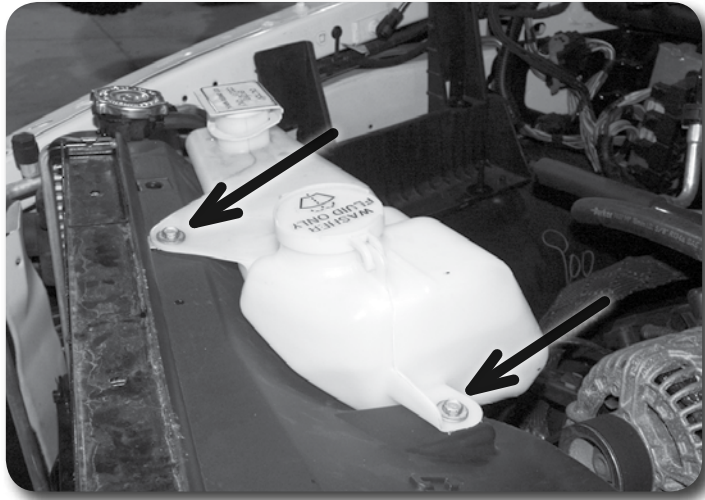

Figure 2
10. Remove the two bolts mounting the overflow bottle to the radiator fan shroud and remove the bottle from the vehicle **Figure 2**.